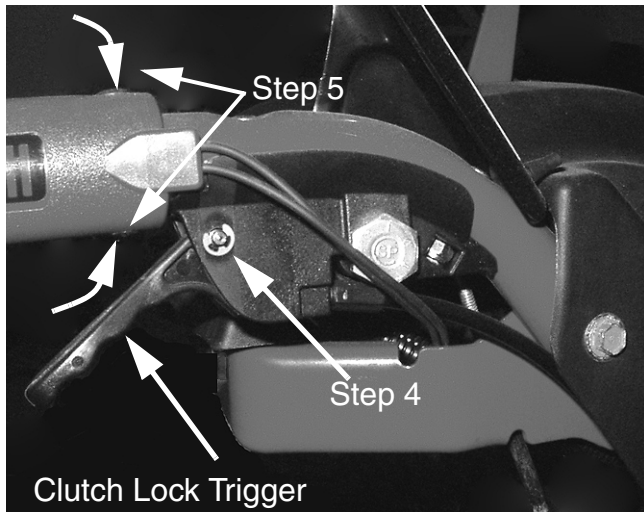

FIGURE 2
4. If so equipped, remove the small "E" clip from the 3/16" pin retaining the clutch lock trigger to the clutch lock handle assembly for the left and right handles. Remove the pin and allow the trigger to slide out of the clutch lock handle assembly. See Figure 2.
5. Slip one Heated Grip, Item 5, onto the right handle bar with the wires to the outside of the handle bar. Secure with two self tapping Screws, Item 1, from top and bottom of grip. See Figure 2. Reconnect the clutch lock trigger removed in Step 4.
NOTE: Route wires under the handle panel as shown in Figure 2. Ensure wires will not come in contact with any moving parts.